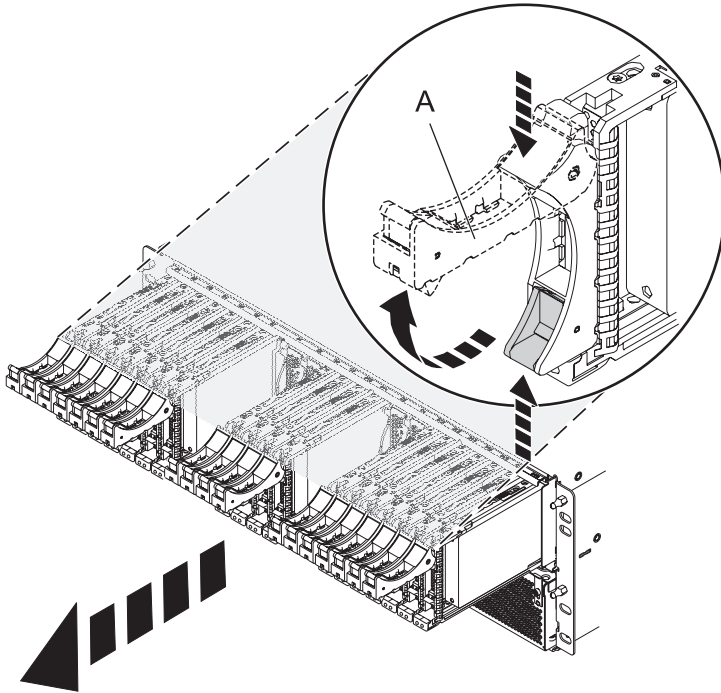

Figure 73. Removing the drives from the backplane
4. Remove the drives and fillers as shown in Figure 73.
- a. Squeeze the latch of the drive and pull the handle (A) toward you to release the drive.